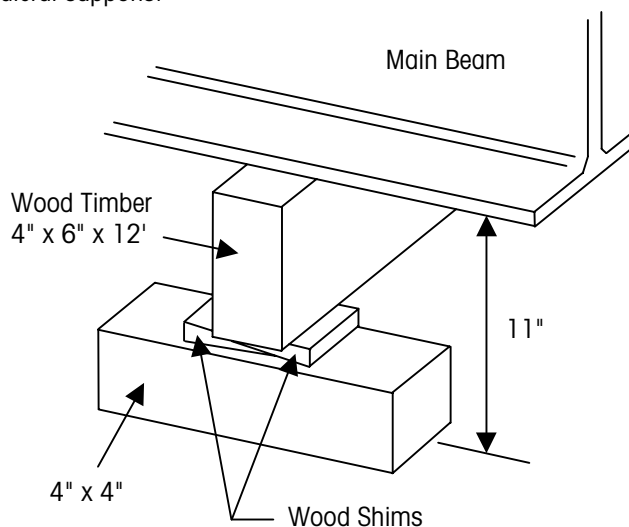

Figure 5-2: Support for Beams
1. Place wood timbers across the floor of the foundation to support the modules and decking when the concrete is poured. Wood timbers should be stacked 11 inches high to allow room for the locating tools (see Figure 5-2). If you are using corrugated decking, follow the manufacturer's recommendations for spacing lateral supports.